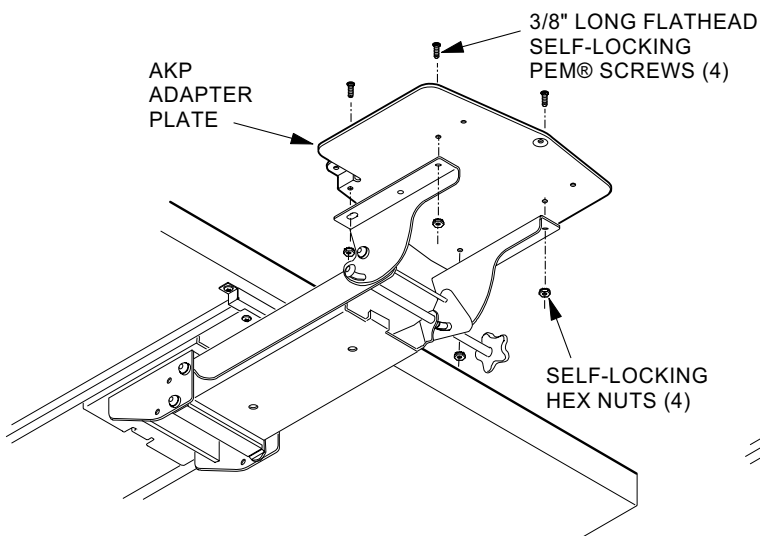

FIG. 3 ATTACH ADAPTER PLATE
2. Attach retrofit adapter plate to AKP arm using four (4) Pem® screws and four (4) self-locking hex nuts (Fig. 3).